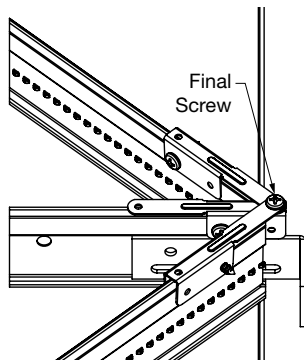

Fig 83
- Once all PACs have been screw-attached to XM Cross Tees, connect them to the first installed PAC by inserting a screw through the aligning holes on the top (**Fig 83**)